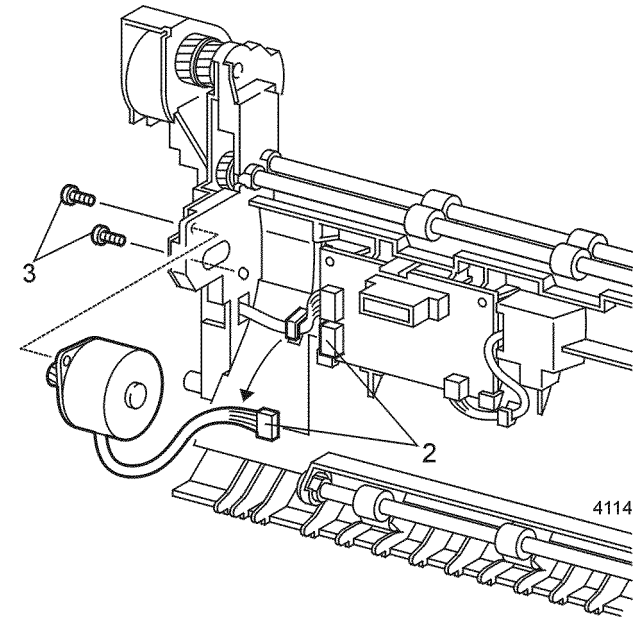

Figure 1 Motor Assembly
2. Disconnect P/J508 from the Duplex PWB (Figure 1).
3. Remove the two screws that secure the Motor Assembly to the Duplex Assembly (Figure 1).